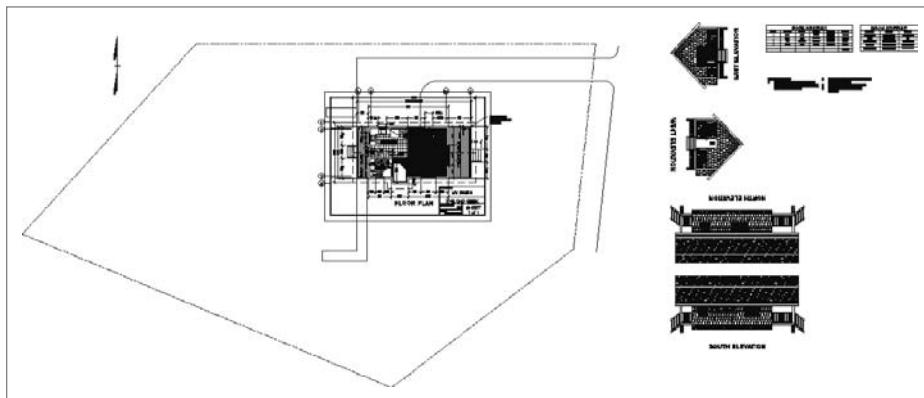

FIGURE 13.17 The elevations and notes moved to the right side of the drawing area
5. Carefully move the elevations and notes outside of the property line. Figure 13.17 shows the elevations stacked on the right side of the drawing area.